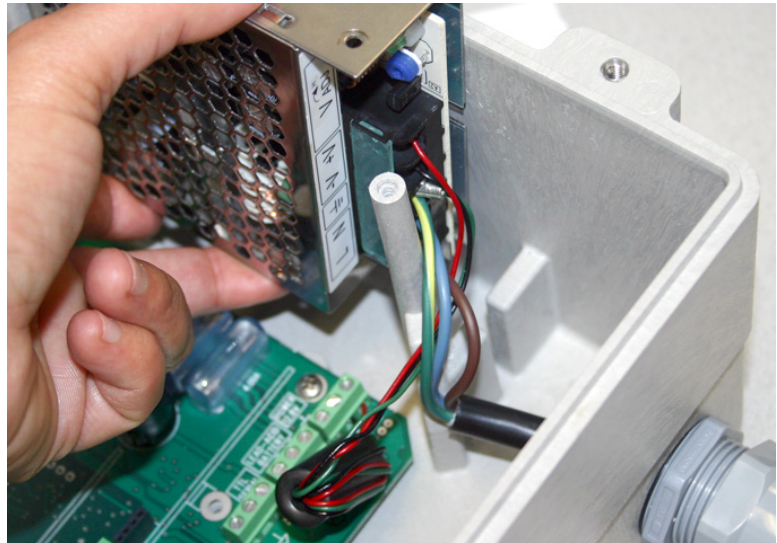

Figure 5-3 Power supply removal/replacement
8. When seating the power supply into its niche, guide the attached wires around in front of the mounting standoff and through the molded slot, so they are not strained or damaged (see Figure 5-3).